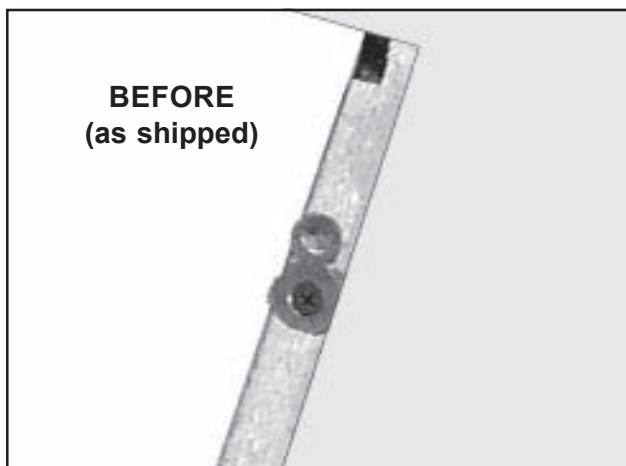

Figure 1. “Figure 8” Fitting - Original Orientation
1. Notice the two “Figure 8” fittings on the upper edges of the cabinet sides (Figures 1 and 3).
1. Notice the four “Figure 8” fittings on the upper edges of the cabinet sides (Figure 1).